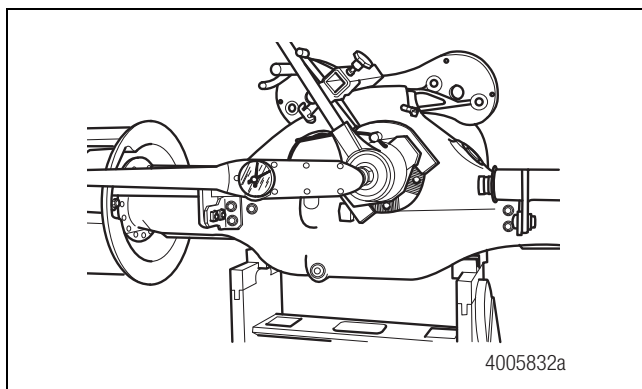

Figure 3.11
2. Use a companion flange retainer tool to hold the output shaft flange in place. Figure 3.11.